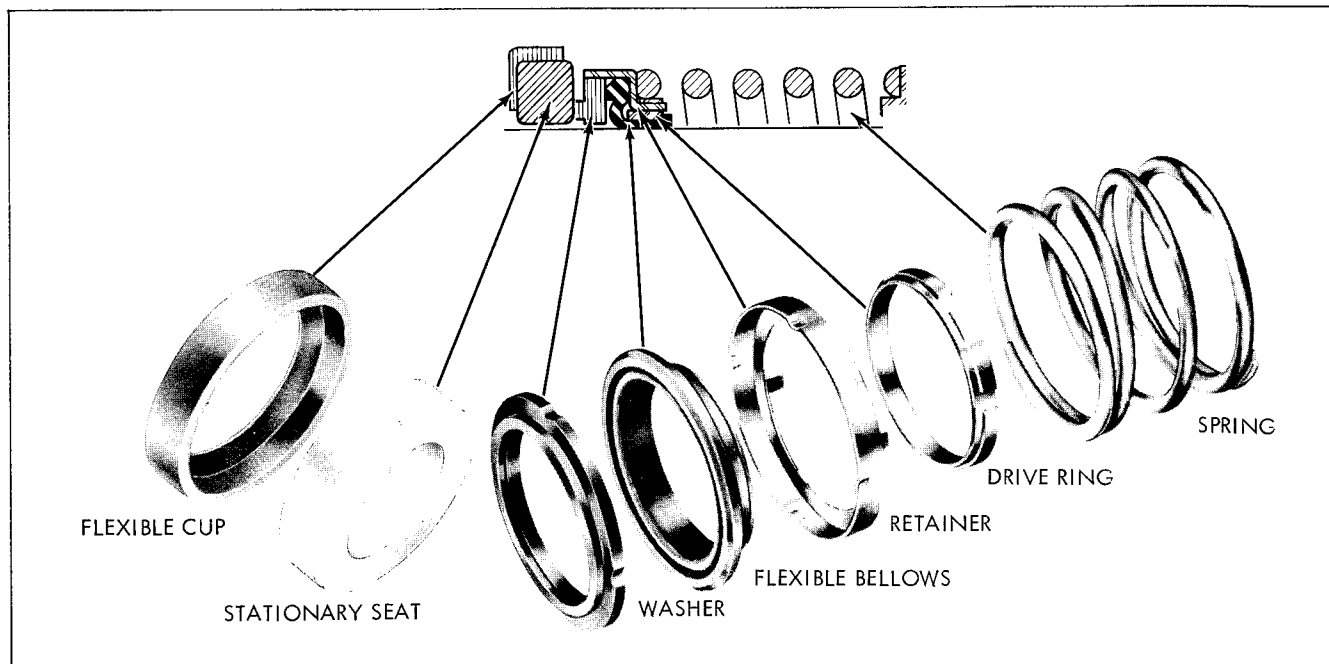

Figure 1. Mechanical Seal (Optional)
The mechanical seal is a precision product and must be treated as such. During removal great care must be taken to avoid dropping any part of the seal. (See Figure 1.)
The mechanical seal (27), (see Figure 1), should not be installed as an assembly. It is necessary to have the seal seat properly in place before the balance of parts can be added.
A. Wipe the sealing faces of the seat and seal washer clean. Lightly oil the shaft sleeve (25). Slide the entire rotating assembly onto the sleeve.
B. Thoroughly inspect the seal cavity in the bracket (35) for burrs or nicks which could damage the seat of the seal. Apply a film of soap paste or flax soap, (do not use oil or grease) to the seal seat. Replace flexible cup in bracket (35).